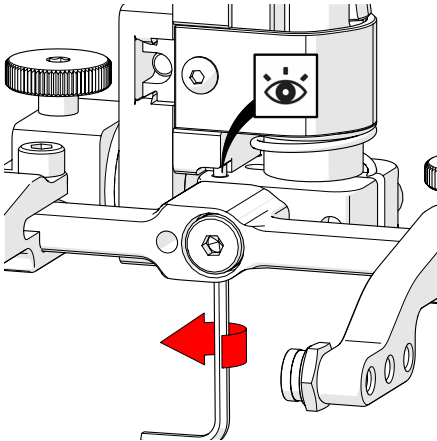

Fig. 193 - Raise opposite 90° stop post
8. Raise the stop post on the opposite side until the side of the post clearly contacts the 90° stop point on the probe holder's base (Fig. 193).